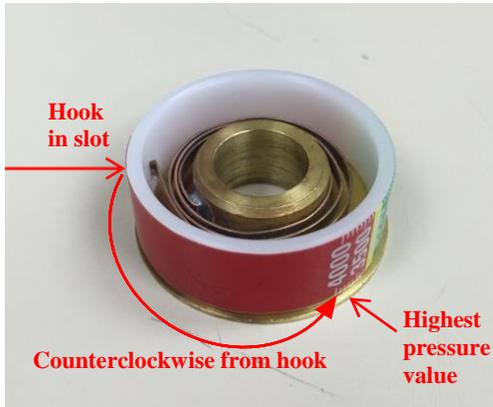

Figure 4
- 3.1 Place the plastic ring with the pressure decal over the InGage body and guide the hook into its slot. (Figure 4)
- 3.2 Verify that the plastic ring is installed such that the highest pressure value on the label is the first value counterclockwise from the hook while the assembly is aligned as in figure 4.